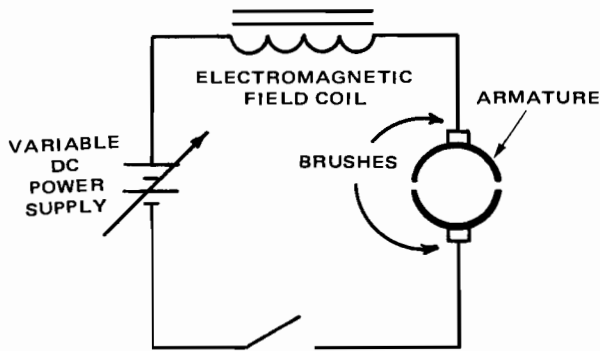

Fig. 12-2-2
6. Turn off circuit switch and attach field coil to motor base unit. Turn spring clip magnet holders inward to make room for field coil. Bolt field coil into place. Wire circuit as in Fig. 12-2-2.